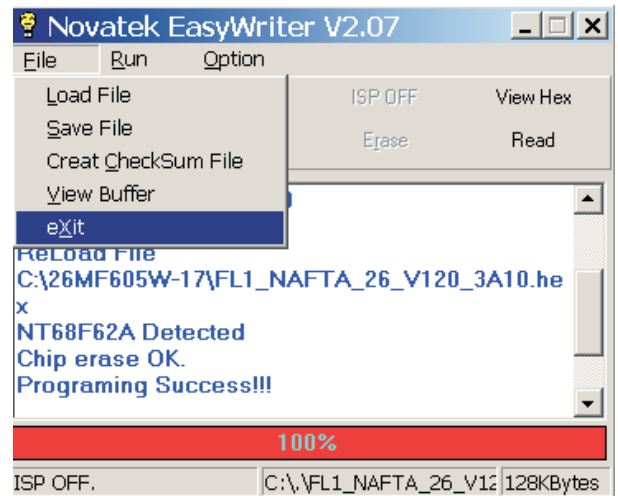

Fig. 10
- Press the file --> exit to end program , as shown in Fig. 10.